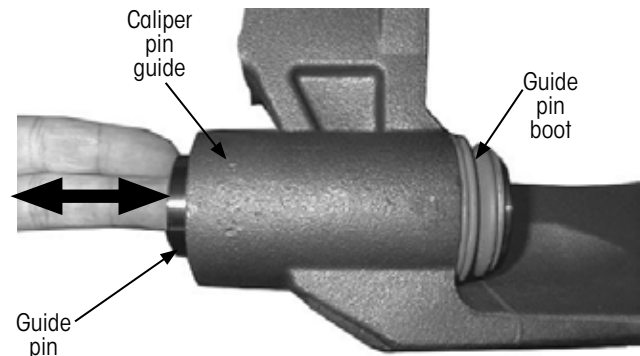

Figure 56: Removing guide pins
1. **Remove** the guide pins from the brake caliper (Figure 56).